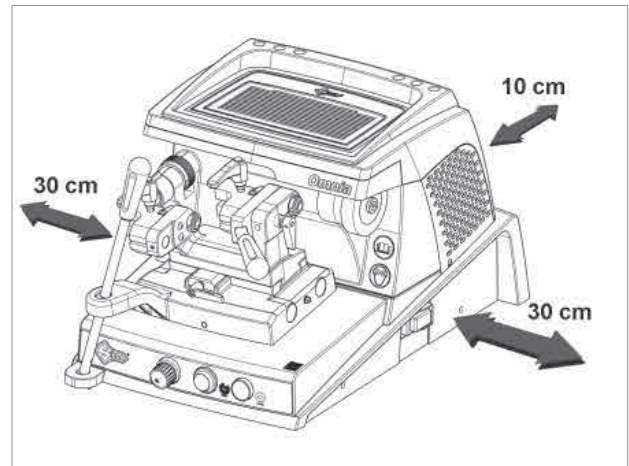

Fig. 27
- we recommend leaving a clearance of at least 10 cm behind the machine and 30 cm on each side to ensure good ventilation and facilitate handling (Fig. 27).